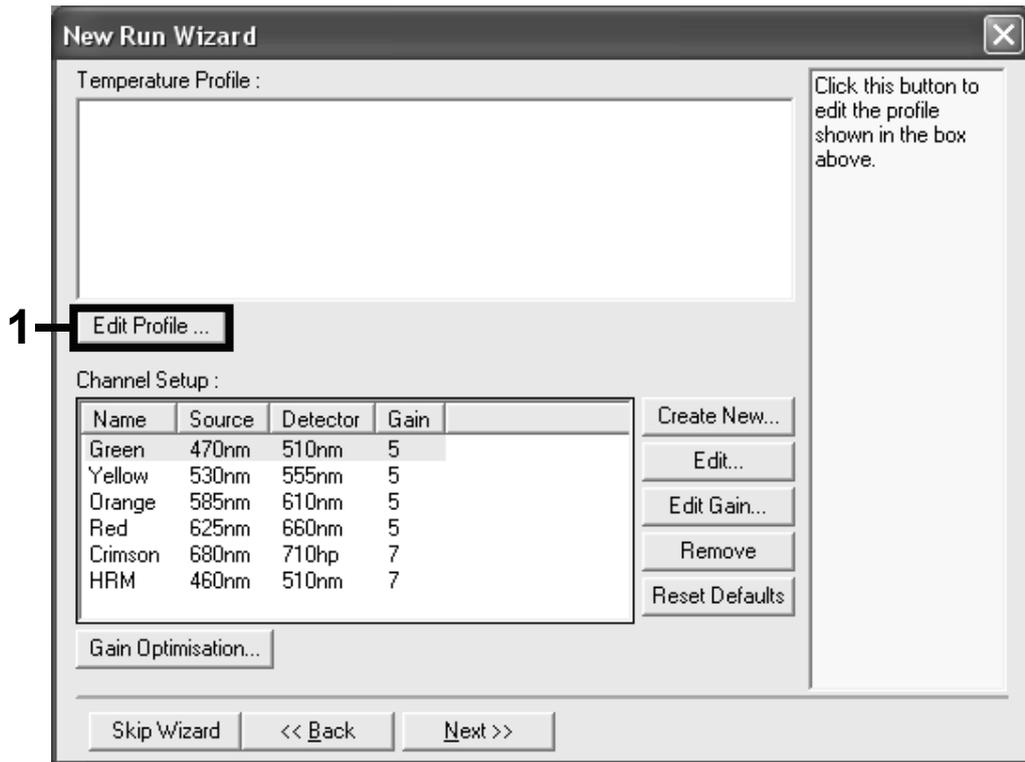

Figure 3. Editing the profile.
- 10. Click the "Edit Profile" button in the next "New Run Wizard" dialog box (Figure 3), and program the temperature profile according to the information in the following steps.**